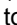

Fig. 57: Insert threaded ring (outlet)
- 8.** ➤ Insert the threaded ring (outlet) into the device body (outlet) (Fig. 57)